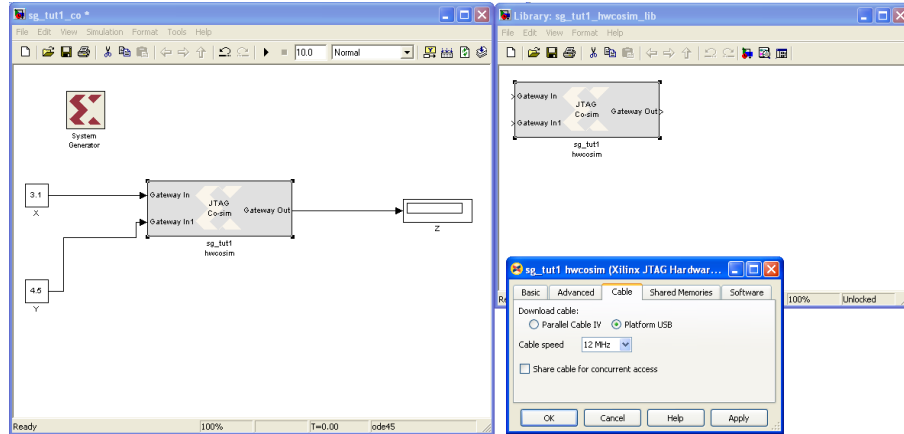

Figure 15: Modifying the Design for Co-Simulation
- In the model **sg\_tut1\_co** replace all the hardware components with the “**sg\_tut1\_hwcosim**” from the library “**sg\_tut1\_hwcosim\_lib**” as shown in Figure 15.
- Double click on the “**sg\_tut1\_hwcosim**” block. The block properties window will appear as shown in Figure 15. For the download cable select **Digilent USB JTAG Cable** as the NEXYS3 (Spartan-6) boards use Digilent USB JTAG download cable. Click **OK**.